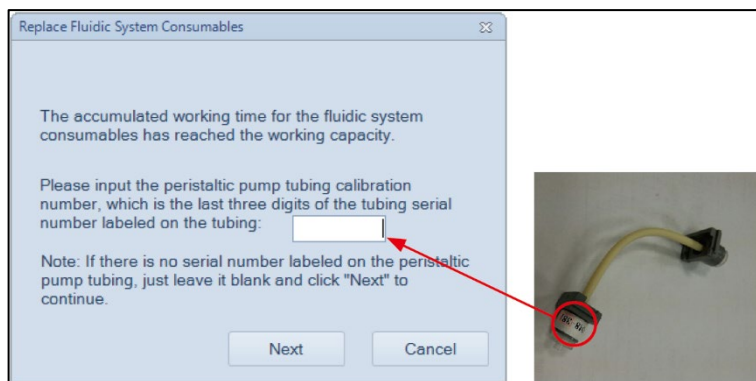

Figure 111. Software Message Instructing to Enter the Tubing Calibration Number
- 10 Enter the **Tubing Calibration Number** in the software prompted window, which is the last three digits of the tubing serial number affixed to the tubing (Figure 111) and click **Next** to continue.